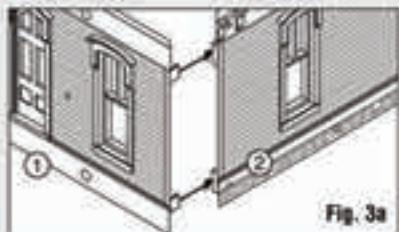

Fig. 3a
- Align Front Wall ① with Right Wall ② and snap together (**Fig. 3a**).
- Align Left Wall ④ with Front Wall ① and snap together.